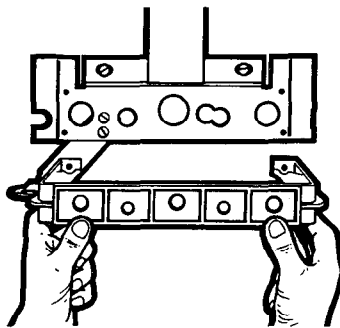

Fig. 21
- Attach plastic jig plate to bottom bracket using 4.6 mm x 10 hexagonal screws provided (fig. 21).